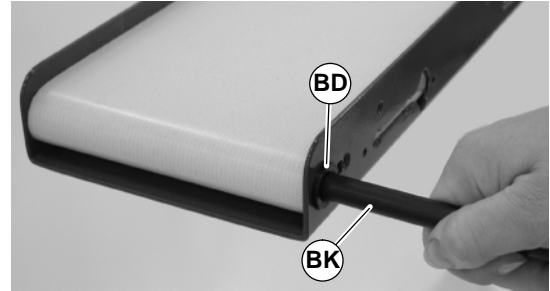

Figure 41
5. Remove the sleeve arbor tool (BK of Figure 41) and insert it into opposite side through retaining sleeve (BD).